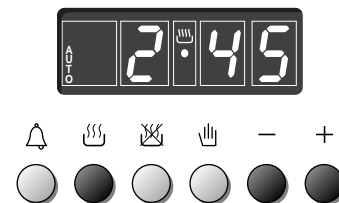

Fig. 4.7
1. Set the length of the cooking time by pushing the button and the button to advance, or to go backwards if you have passed the desired time (Fig. 4.7).